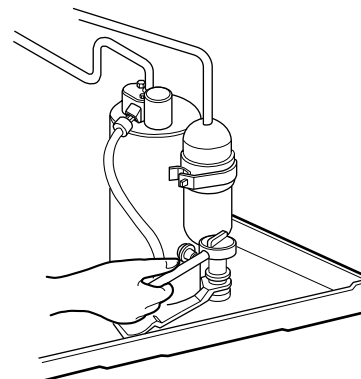

Figure 10
6. Remove the compressor. (See figure 10)